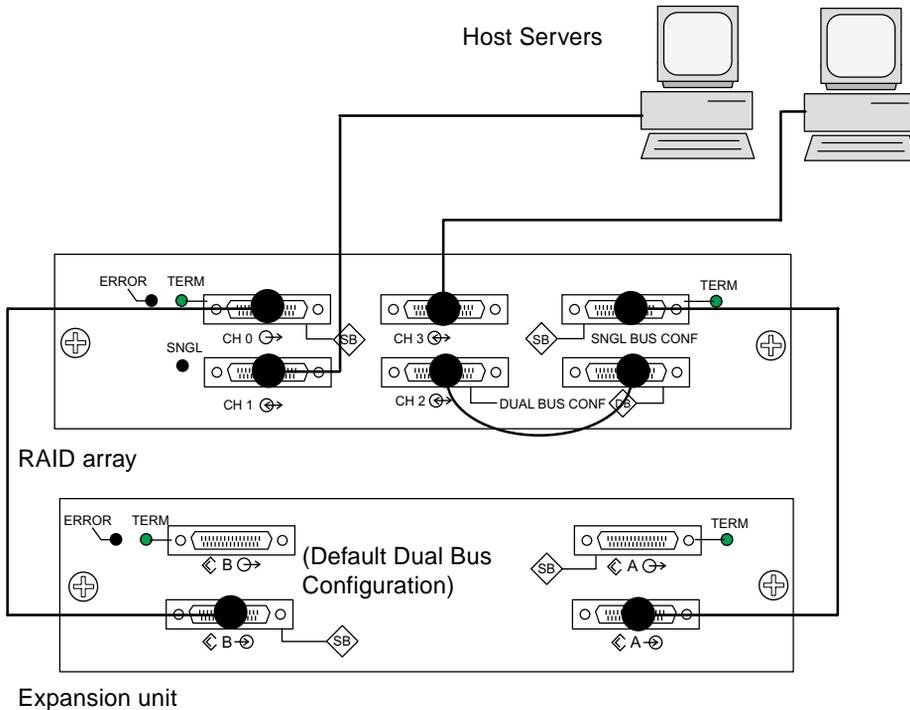

FIGURE 5-17 Dual Bus Configuration with One RAID Array and One Expansion Unit
In FIGURE 5-17, RAID Channels 0 and 2 are expanded into the expansion unit, in a dual bus configuration set up on the RAID array and kept by default for the expansion unit.
3. Based on the configuration shown in FIGURE 5-17, the default drive IDs for a dual bus configuration are shown in the following figures.